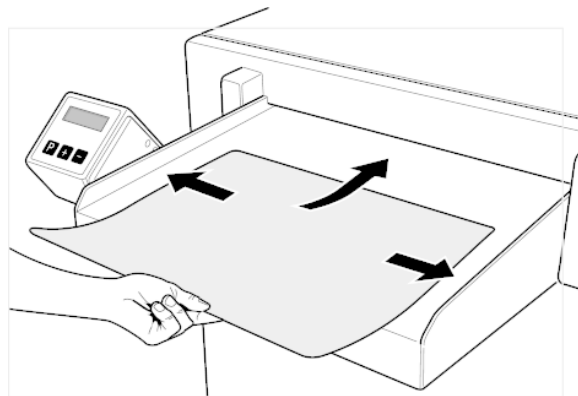

Fig. 5
- With a forward motion and with a light pressure, the film is pushed straight into the insertion slot (fig. 5).